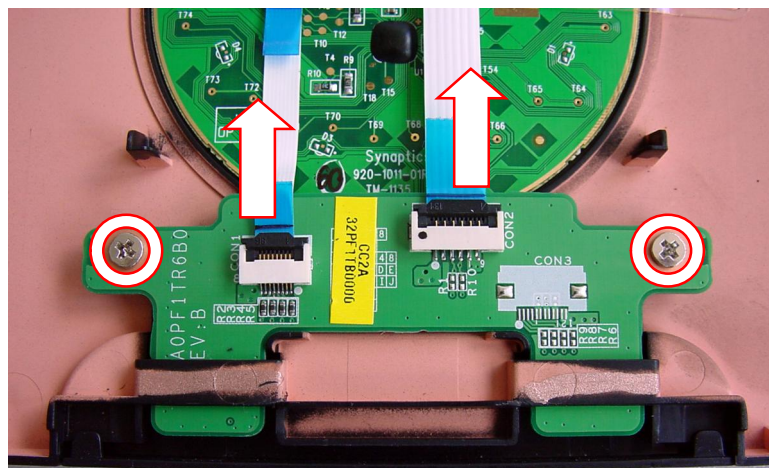

Fig. 26 Disconnecting touchpad cables.
2. Remove the two screws securing the touchpad module to the top cover (see Fig. 26).